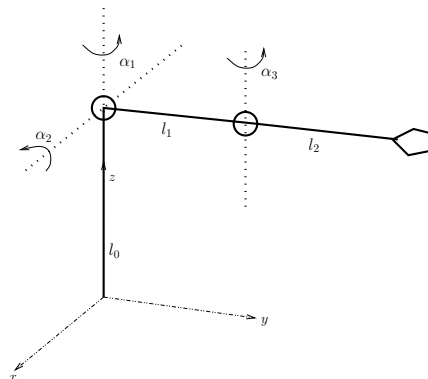

Figure 2: Wristless Armatron.
**Problem 2.** (20 pts) Consider the wristless Armatron manipulator of Figure 2. It is not possible to achieve an arbitrary configuration without the wrist, so let's consider the reachable workspace, e.g., the set of reachable positions of the end-effector.